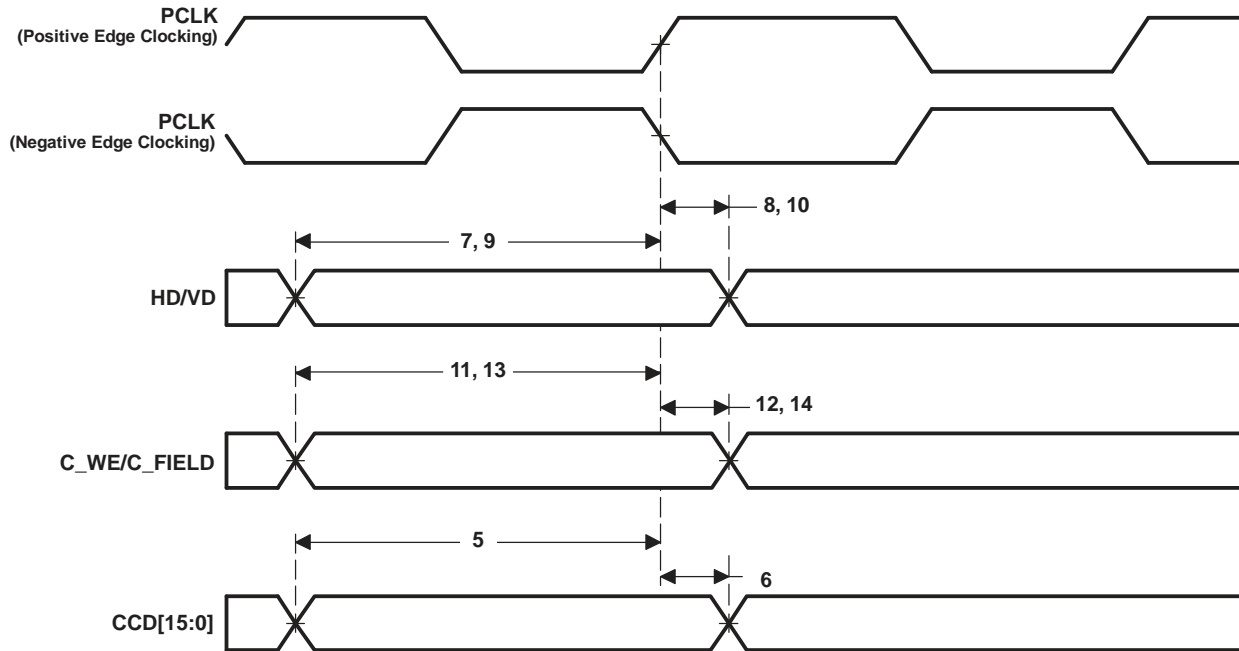

Figure 6-47. VPFE (CCD) Slave Mode Input Data Timing
**Table 6-54. Timing Requirements for VPFE (CCD) Slave Mode(1) (see Figure 6-47)**